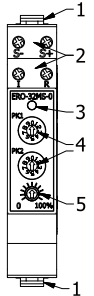
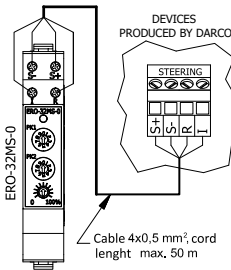
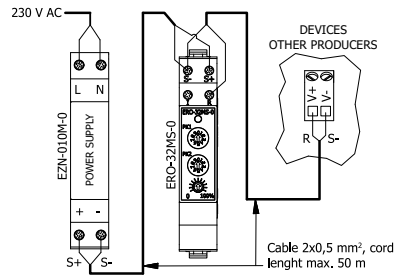

Figure 1. Regulator construction
Figure 2. Electrical wiring diagram for devices produced by DARCO.
Figure 3. Electrical wiring diagram for devices produced by other producers.
1. Hook one of the latches (fig.1 pos.1) onto a TS-35 rail.
2. Pull the other hook (fig.1 pos.1) away with flat screwdriver and then push the controller towards the TS-35 rail.
3. Release the hook (fig.1 pos.1).
Controller has 4-pin connector (fig.1 pos.2) to connect steered device cable. **Joint should be made with the usage of 4-wire cable (cord-type) of 4x0,5 mm2 cross section.** Figure 2 show the way controller and steered devices can be connected.
ERO-32MN-1 and ERO-32MN-2 controllers have 4-pin connector (fig.1 pos.2) to connect power and steered device cable. **Joint should be made with the usage of 2-wire cable (cord-type) of 2x0,5 mm2 cross section.** Figure 3 shows the way controller and power and steered devices can be connected.
Before switching the controller on, it is necessary to select the device to be steered. Selection is made with the usage of two PK1 and PK2 coding switches (fig.1 pos.4) that are to be set in accordance to the information in table No 1. Diode (fig.1 pos.3) is confirming the type of device chosen (in sequence: color green, red and yellow).
Speed adjustment or setting voltage of steered device is made manually, with the usage of a knob (fig.1 pos.5). Turning it all the way left makes the controller go in standby mode.
Table 4. **Signaling of incorrect values of PK1 and PK2 code switches (fig.1 pos.4):**